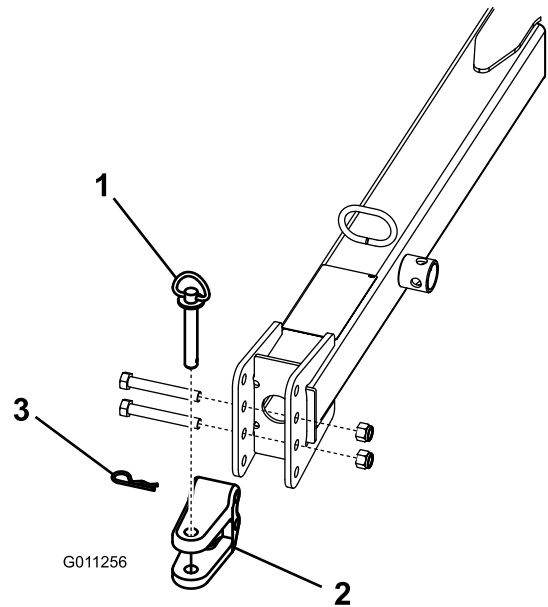

Figure 10
- Remove the bolts and locknuts securing the hitch clevis (Figure 10) to the hitch tongue.